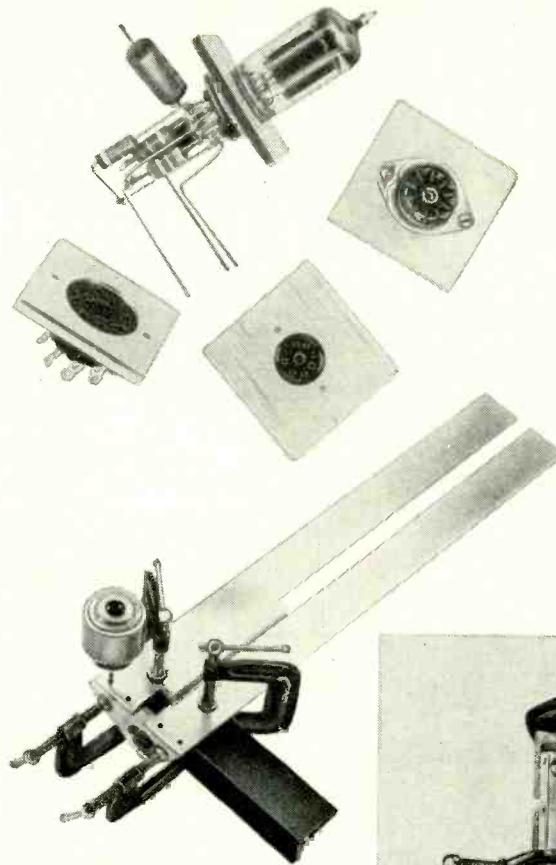

Fig. 5—Method of clamping parts to a portion of angle iron for drilling. A scrap piece of 3/8-inch material is shown being used as a spacer.
Components which are to be bolted together are clamped in their required positions on a piece of angle iron or a mounting fixture, as shown in Figs. 5, 6. Tapping holes are then drilled through both parts. Inserting scrap pieces of 3/8-inch material as spacers results in uniform gaps in the chassis sides; slide-in panels may be used in gaps of the chassis top.
2. Attach end supports to their corresponding cross rails, clamping and drilling at both ends as indicated in Fig. 5.